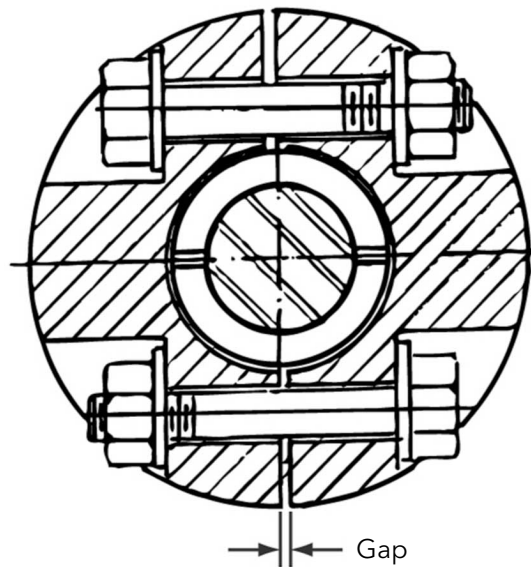

Figure 17: Top view
8. Insert the coupler cap screws and place a lock washer and nut on each screw. The bolt heads at each level on opposite sides of the coupling should face in different directions for balance as shown in Figure 17 on page 25.
8. Insert the coupler cap screws and place a lock washer and nut on each screw. The bolt heads at each level on opposite sides of the coupling should face in different directions for balance as shown in the Figure 17 on page 25.